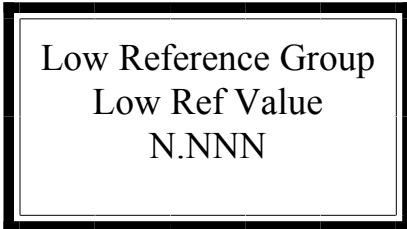

Figure 9a: The Low Referencing Value
2) Locate and open the Menu Variable “Low Ref Value” Figure 9a, and set the value to 0.0000 inches for an empty vessel. (see pages 1-3 on modifying Menu Variables).